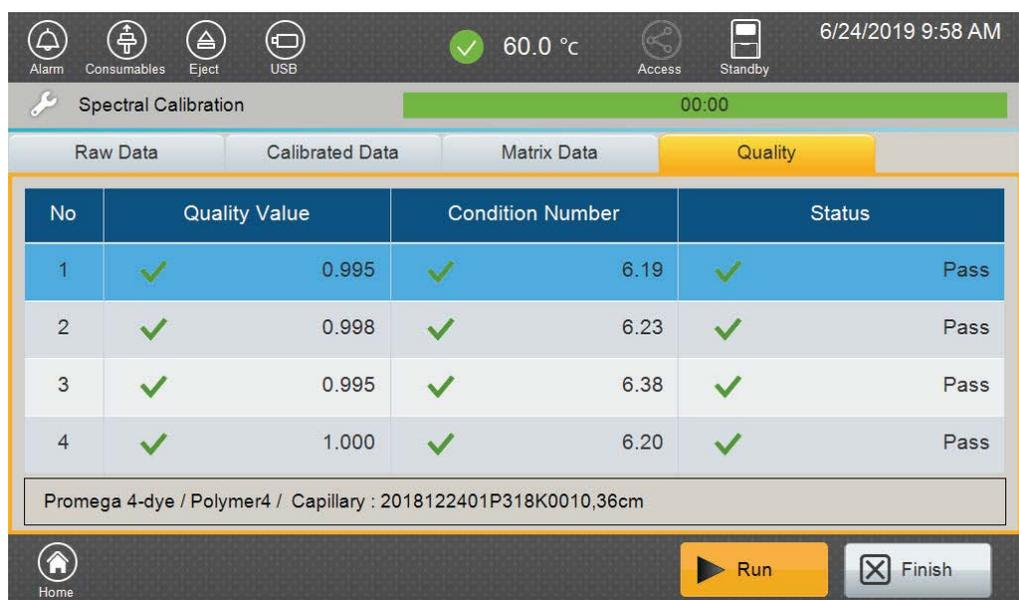

Figure 41. Spectral Calibration 'Quality Tab' screen.
4. Review the quality of the spectral calibration by selecting the 'Quality' tab (Figure 41).